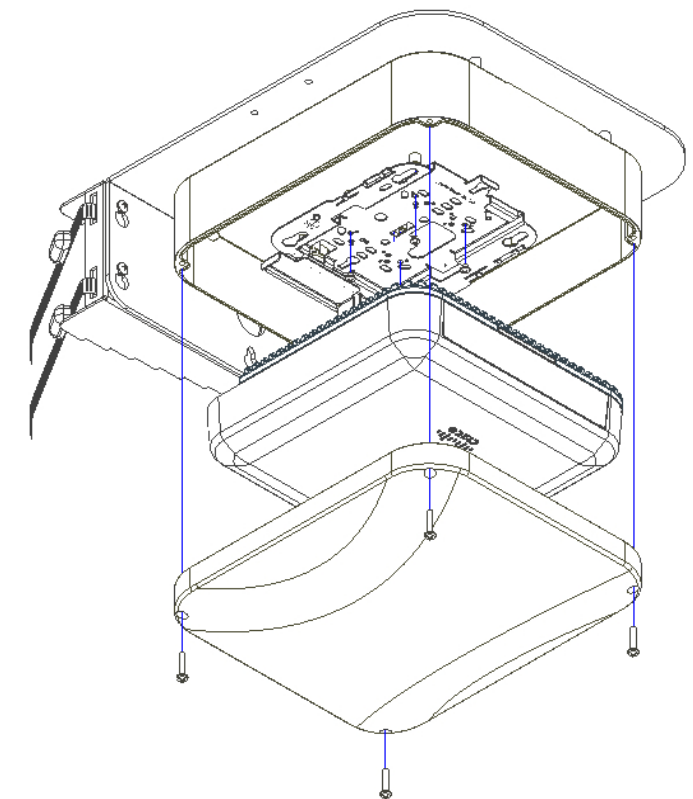

Figure 3 - Cisco AP and Antenna Installation
Step 2 – Fasten the assembled 1020-RAB unit with the cover off to the Pole Mount Bracket. The enclosure can be mounted horizontally or vertically (Figure 3).
Step 3 – Route any cabling as needed, and install the access point with the 1020-RAB included hardware. Screw on the cover to 8 in-lbs for a proper seal (Figure 3). Installation is complete.